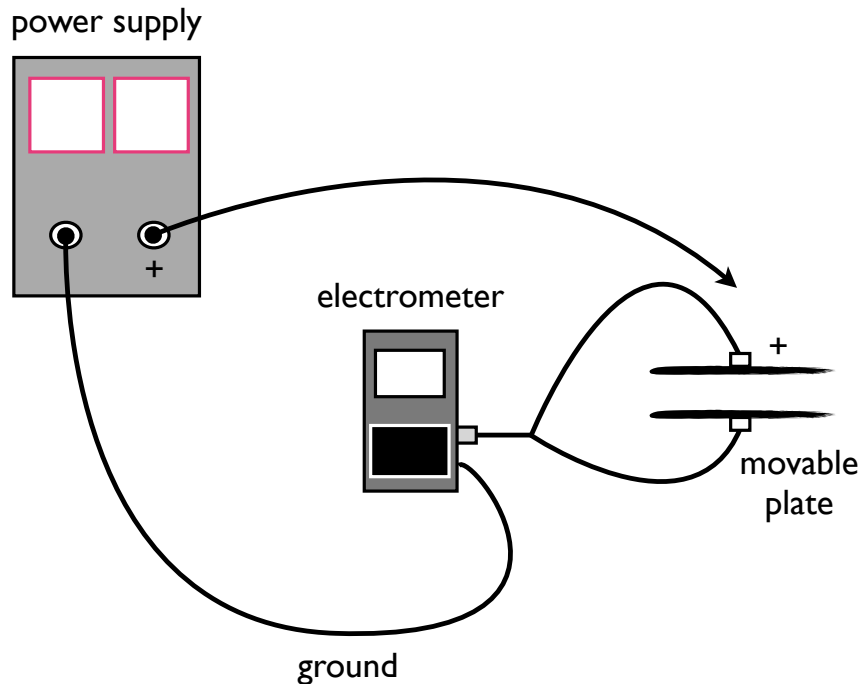

Figure 5: Electrometer set up.
1. Set the capacitor plate spacing to 0.5 cm. Connect the low-capacitance test cable (with BNC leads) to the electrometer input. Next, connect the ground lead of this test cable to the moveable plate of the capacitor plate and the other lead to the fixed plate + of the capacitor (see Fig. 5).